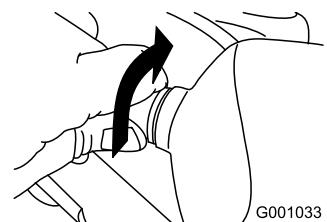

Figure 62
2. Turn the base of the bulb counterclockwise until it stops (Figure 62).